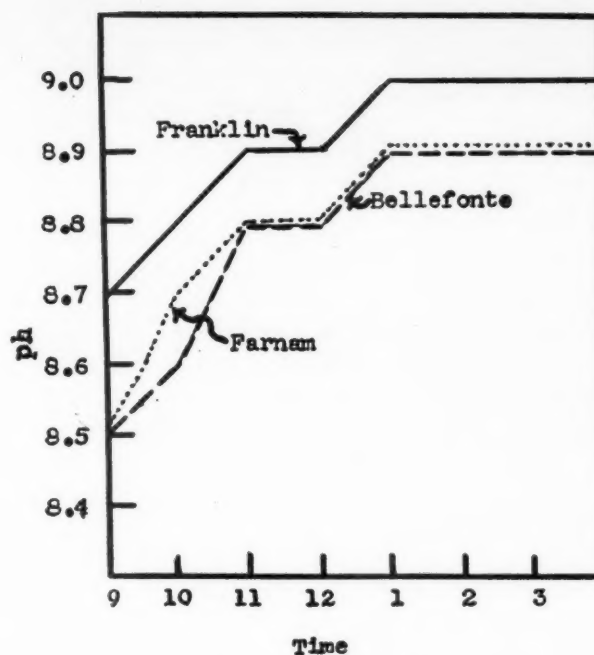

Fig. 3—Effect of lime on pH of effluent.
In coagulation of sewage, lime is used for pH adjustment. The Franklin lime produced persistently a slightly higher pH value than the other two limes. As an example, the average results of pH readings in the effluent during the day time when the sewage was strongest is illustrated in Fig. 3. It is not likely that these small differences in the pH values used for coagulation were of importance, but it may make a material difference when the amounts of lime used are insufficient to obtain optimum conditions.
**Spreading and Compacting.**—The soil of which the dam is to be made should be spread in layers 6 to 10 inches thick gauged by means of dump sticks or other devices. Bulldozers are extremely efficient in spreading the fill material in layers of uniform depth, and the tractor is a material help in compacting. Stones larger than 3 or 4 inches in size—the size of one's fist—should be excluded from the fill, and may be piled to form the downstream toe of the dam, as shown in Figs. 3 and 4.